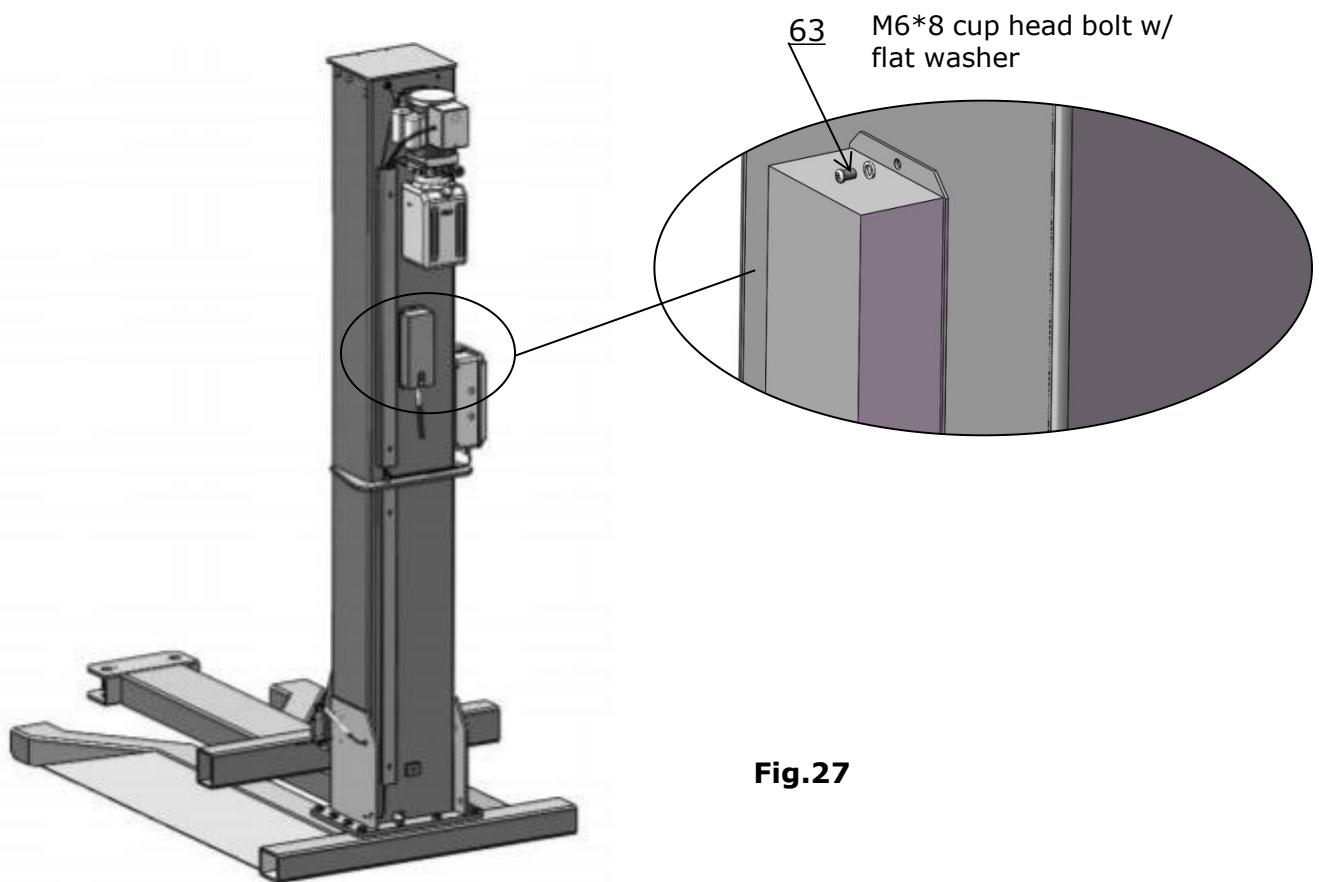

Fig.27
I. Install safety device cover (see fig.27)